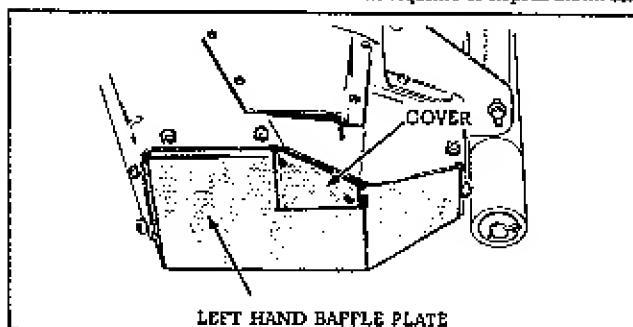

FIG. 4
1. Remove the guard assembly from the discharge opening of mower housing. Install the Left Hand Baffle Plate as shown in Figure 4. This baffle is held in place by 7 carriage bolts, lockwashers, and hex nuts. Note that the lockwashers and nuts are on the exterior of mower housing.